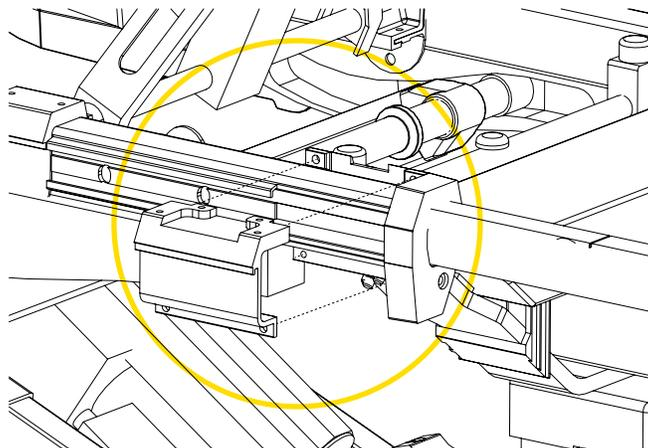

Figure 7: Stretcher preparation - Exterior part of clamp block removal
12. Remove the exterior part of the clamp block (4 screws; Figure 7). It will not be reused for this specific installation.